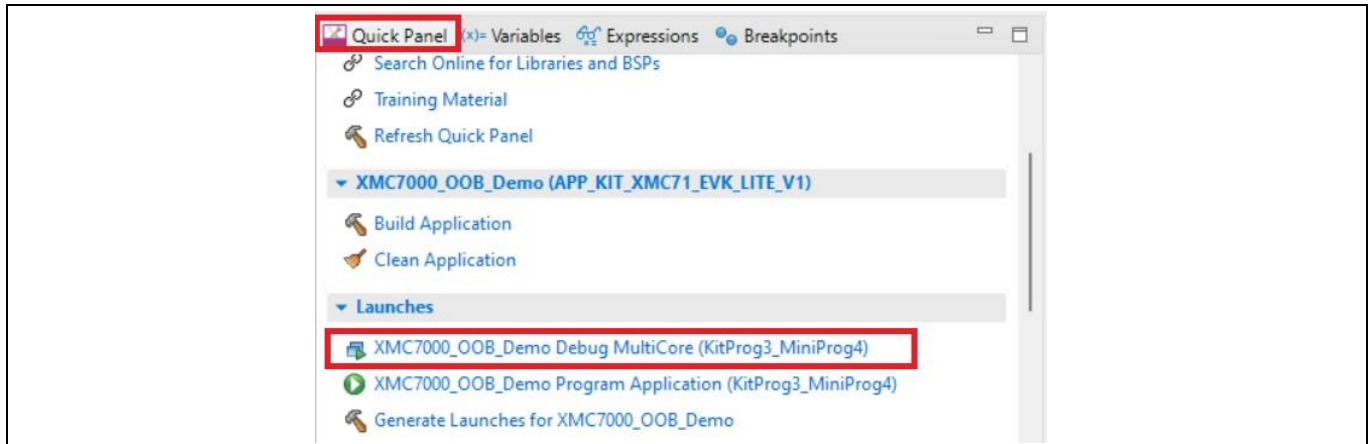

Figure 13 Debugging in ModusToolbox™
- ModusToolbox™ software has an integrated debugger. To debug a XMC7100D application, in the Project Explorer, select **<App_Name>** project. In the Quick Panel, scroll to the **Launches** section and click the **<App_Name> Debug (KitProg3_MiniProg4)** configuration as shown in Figure 13. For more details, see the “Program and debug” section in the Eclipse IDE for ModusToolbox™ user guide.